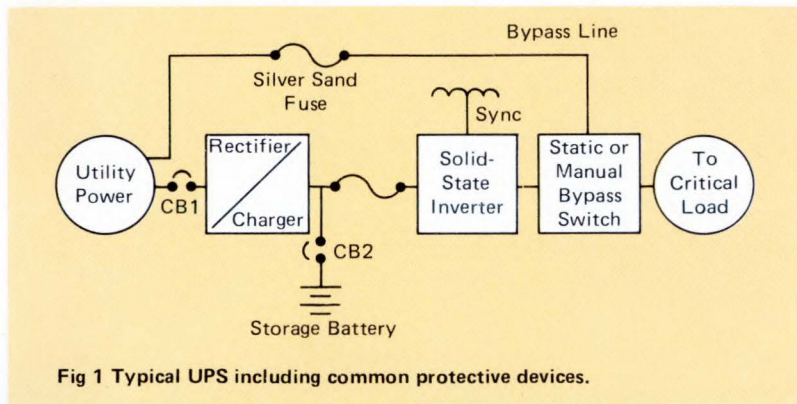

Fig 1 Typical UPS including common protective devices.
A UPS (Fig 1) is a continuously on-line solid state device accepting utility grade AC input and providing precise, "computer grade" AC output. It has three basic elements: (1) Rectifier-Charger which converts the normal utility power to DC, (2) DC to AC Inverter to reconvert the DC power supplied either by the Rectifier-Charger or a storage battery to precise AC power for input to critical (load) equipment, and (3) Storage Battery, connected between the Rectifier-Charger and Inverter to sustain the AC power output from the UPS whenever utility power is out of tolerance or unavailable. Additionally, many UPS include a Static Bypass Switch (SBS) to automatically transfer (bypass) the critical load equipment from the inverter output back to the utility in the event of internal UPS malfunction.